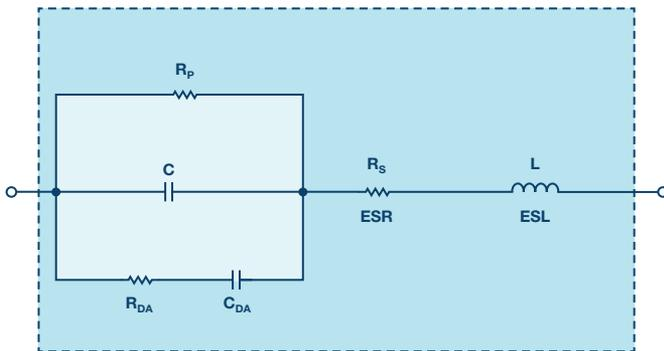

Figure 1. A real capacitor equivalent circuit includes parasitic elements.
Figure 1 shows a model of a real capacitor. The nominal capacitance (C) is shunted by a resistance,  $R_p$ , which represents insulation resistance or leakage. A second resistance,  $R_s$  (equivalent series resistance, or ESR), appears in series with the capacitor and represents the resistance of the capacitor leads and plates.